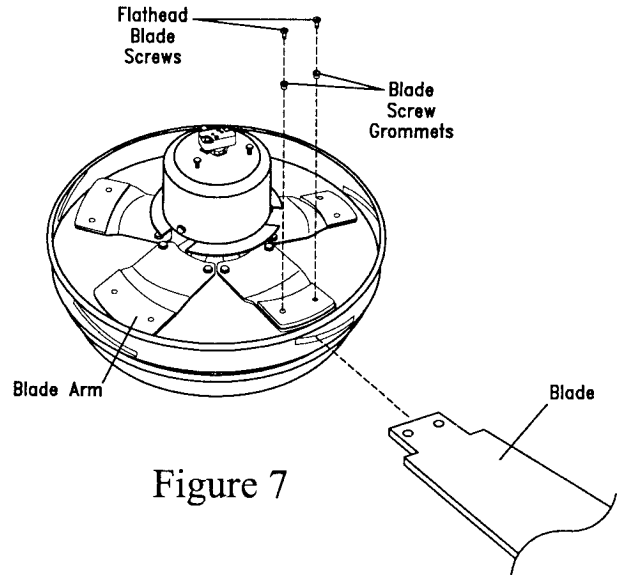

Figure 7
- ☐ 2. Attach blade to the blade arm using the blade screws and blade screw grommets as shown. (Figure 7)